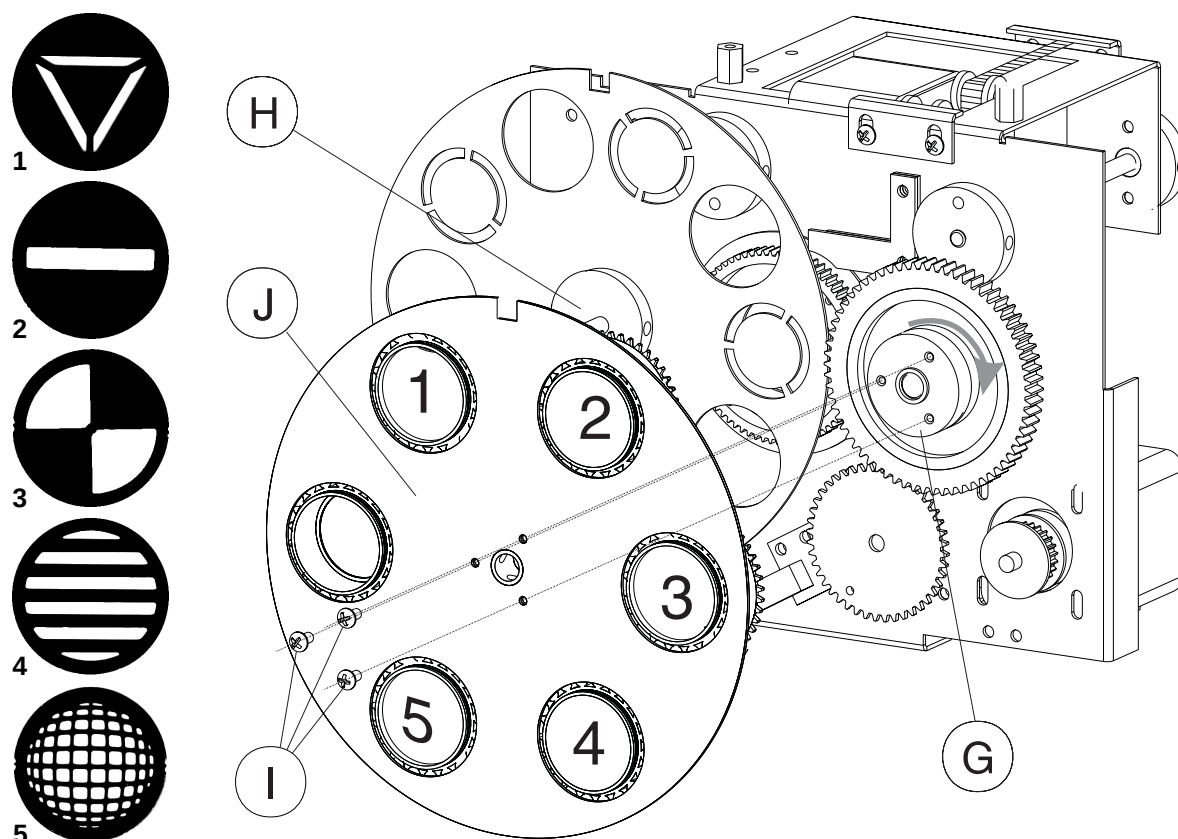

Figure 2-2
2. Refer to Figure 2-2. Unscrew the 3 screws (I) and remove the wheel (J).